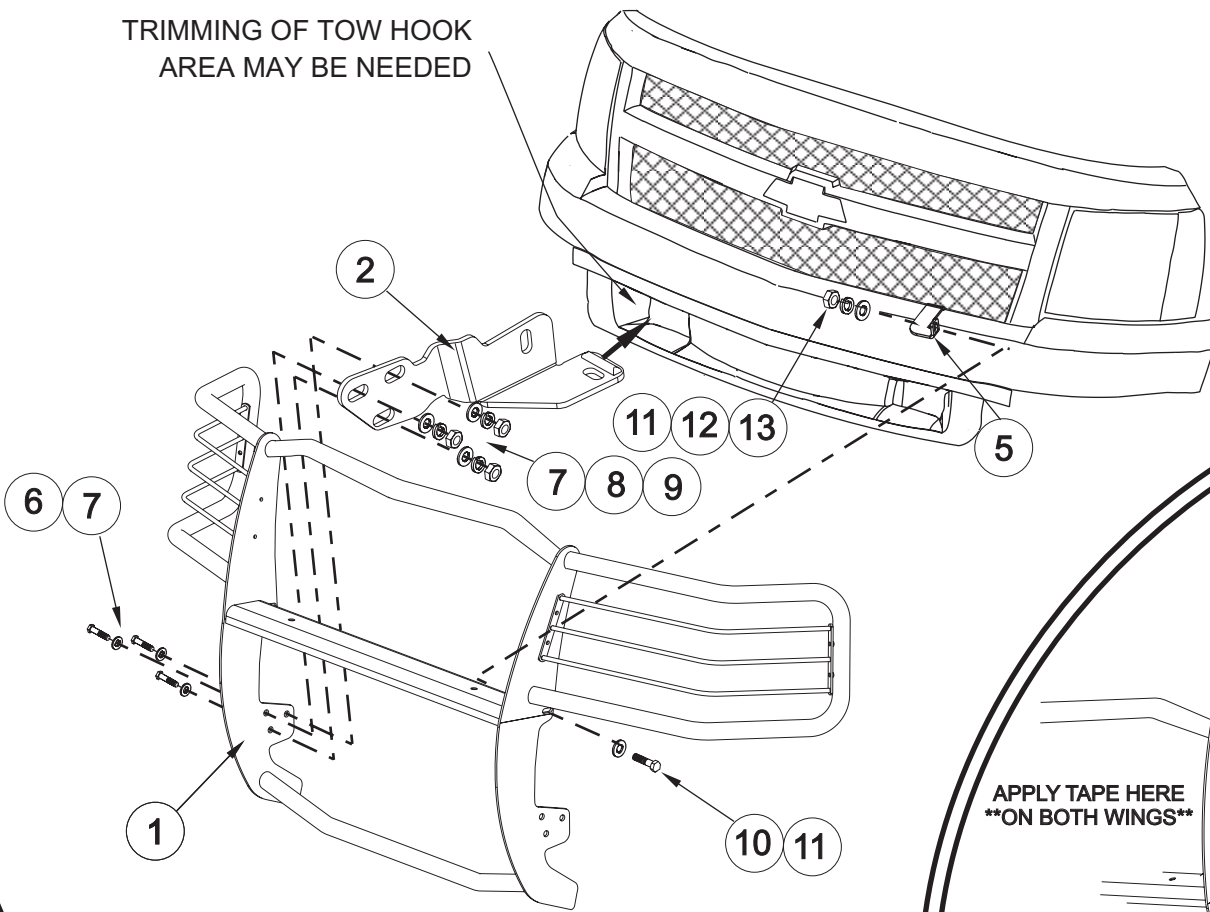

FIGURE 4
- STEP 9. Attach Sportsman to brackets using 12MM fasteners. **SEE FIGURE 4.** Center and level Sportsman on vehicle and tighten all fasteners. Re-install radiator cover at this time.